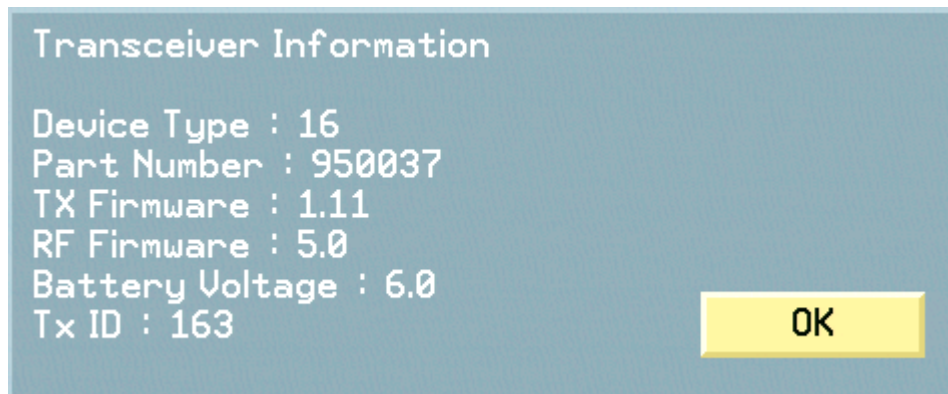

Fig. 78. Transceiver Information popup
4. Click the **Tx Info** button to open the Transceiver Information popup (fig. 78), which displays the current information for the attached transceiver. Click **OK** to close the popup